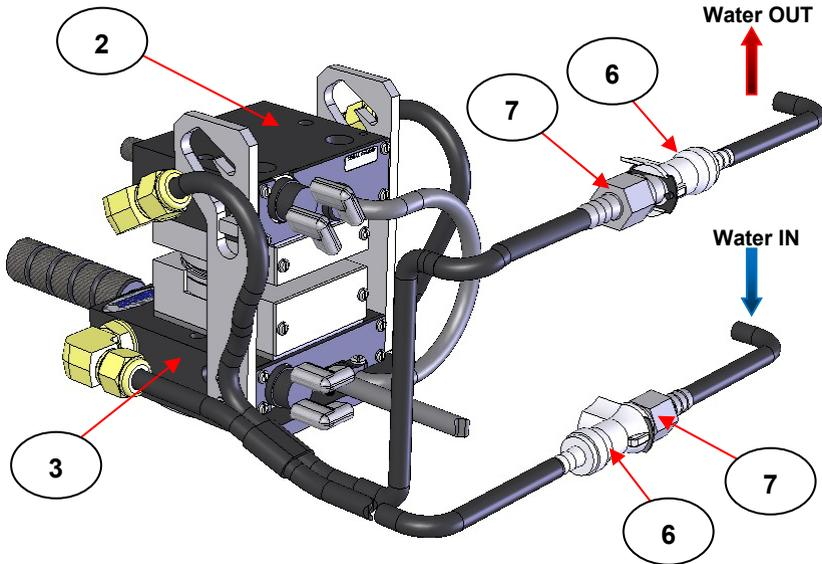

Fig 3. Water In and Water Out Connections for High Temperature Film Maker Accessory
When the appropriate black silicone tubing and Quick Connect **body (6)** and **insert (7)** couplings have been made for the cooling water circuit of the High Temperature Film Maker, the water in and water out points are shown for **Fig 3**.